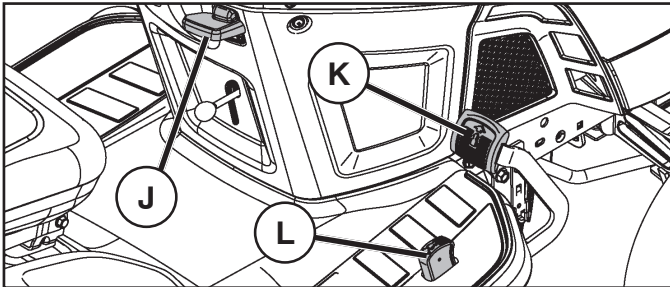

Fig. 24
## TO MOVE FORWARD AND BACKWARD (See Fig. 24)
- Slowly depress forward (K) or reverse (L) drive pedal to begin movement. Ground speed increases the further down the pedal is depressed.
## TO USE CRUISE CONTROL (J) (See Fig. 24)